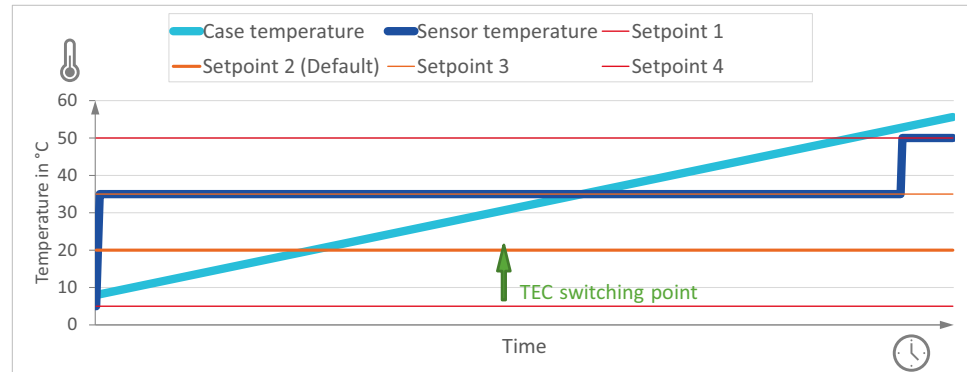

Figure 96: Schematic figure of TEC heating and cooling
During operation, as long as the TEC does not actively cool the sensor, the sensor temperature usually is higher than the housing temperature. So, even if the sensor temperature is below the current temperature setpoint, the TEC might still be required to cool the sensor. The green arrow in Figure 96 shows this situation. Note for better understanding the housing temperature profile is shown in a simplified way that covers the whole temperature range.
- Set to *Auto*, the TEC is able to switch to a higher setpoint, if it exists, as shown in Figure 96.